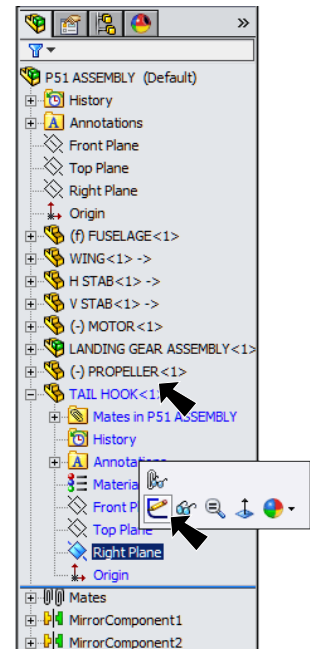

Fig. 2
Step 1. **Expand Tail Hook part** in the Feature Manager, click **Right Plane**  and click **Sketch**  on the Context toolbar, **Fig. 2**.